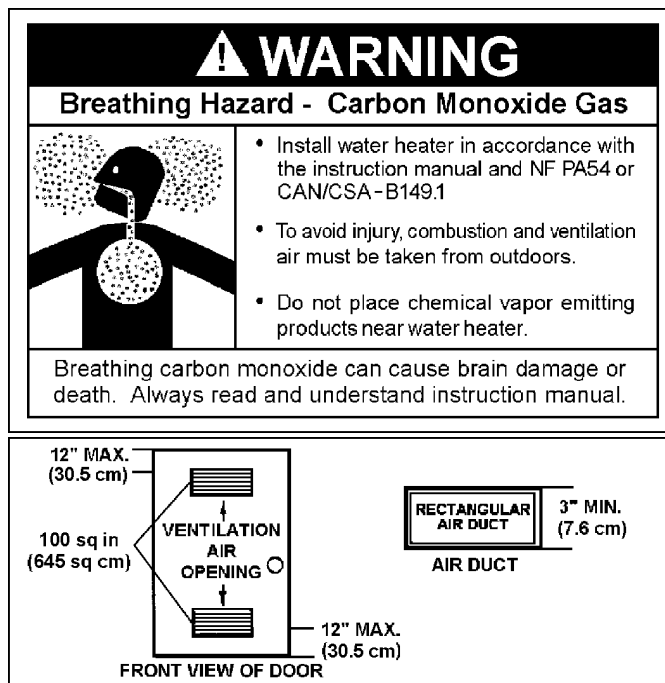

FIGURE 10
A. ALL AIR FROM INSIDE BUILDINGS: (See Figures 10 & 11)